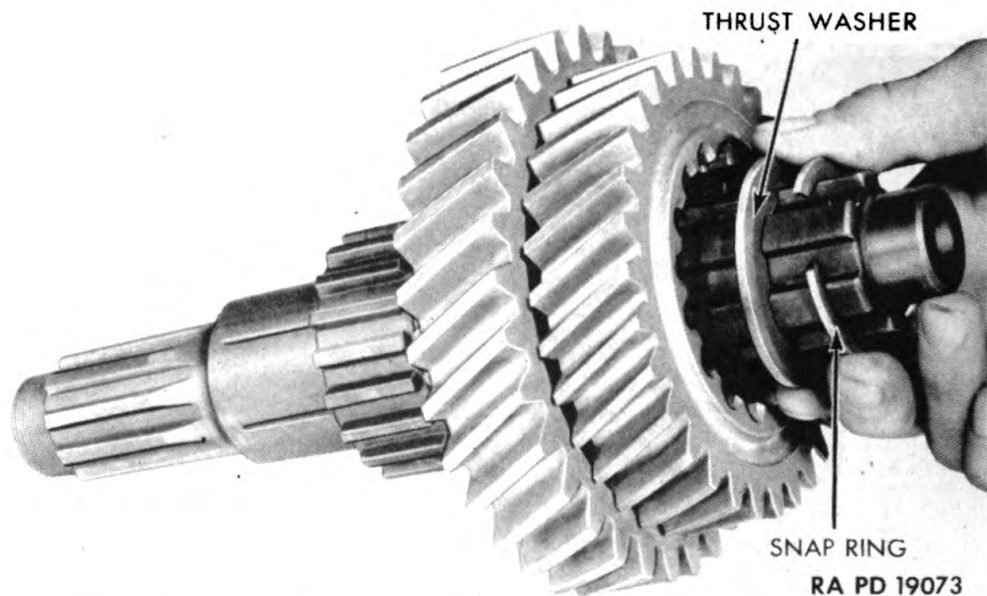

Figure 151 — Removing Mainshaft Third Speed Gear Snap Ring and Thrust Washer
n. Disassemble Transmission Mainshaft and Gears. Remove third and fourth speed sliding clutch collar (gear) from front end of mainshaft (fig. 150). Remove transmission mainshaft first speed gear, which is free on shaft, from rear end of mainshaft. Remove first speed clutch collar from shaft. Remove mainshaft third speed gear retainer snap rings at front end of shaft by prying out of groove, and remove splined thrust washer (fig. 151). Remove mainshaft third speed gear, which is free on shaft, from mainshaft. Remove mainshaft second speed gear retaining ring, and pry split lock washer (lock plates) out of groove in shaft (fig. 152). Remove mainshaft second speed gear, which is free on shaft, from mainshaft.